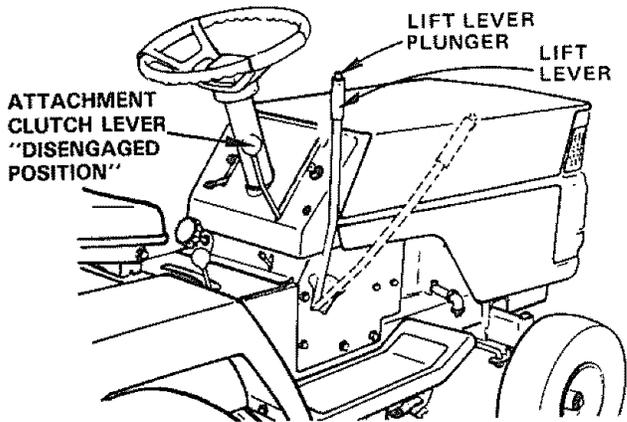
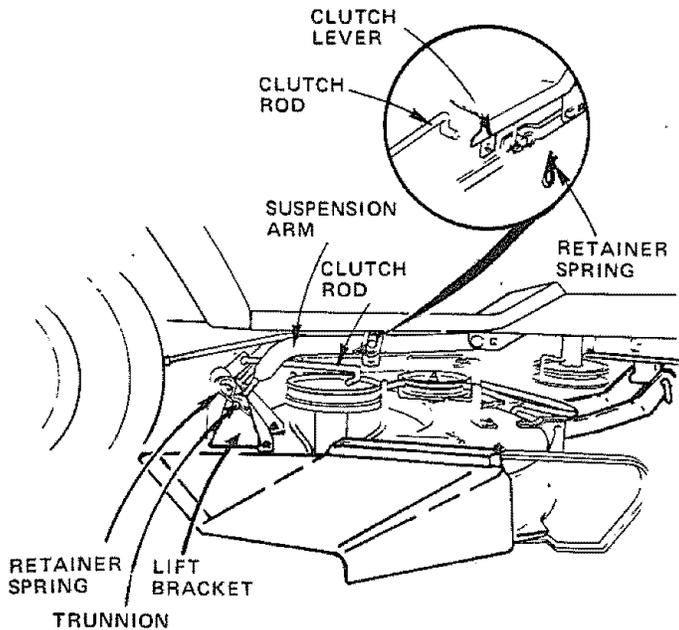

FIGURE 8
FIGURE 10
- Your 36" Mower Installs without the use of tools. Raise lift Lever (Fig.8) to its highest position.
- Install clutch rod in clutch lever (Fig. 10 - Inset). NOTE: INSTALL RETAINER SPRING FROM THE BOTTOM OF CLUTCH ROD TO AVOID INTERFERENCE WITH MOWER DRIVE BELT.
- Move lift lever (Fig. 8) forward to lower suspension arms. Slide trunnions through lift brackets holes and secure with retainer spring (Fig. 10).
- Use lift lever (Fig. 8) to raise mower.
- Place attachment clutch lever in "DISENGAGED" position (Fig. 8).
- Turn height adjustment knob to lowest position. Move mower lift lever (Fig. 8) forward to lower mower to its lowest position.